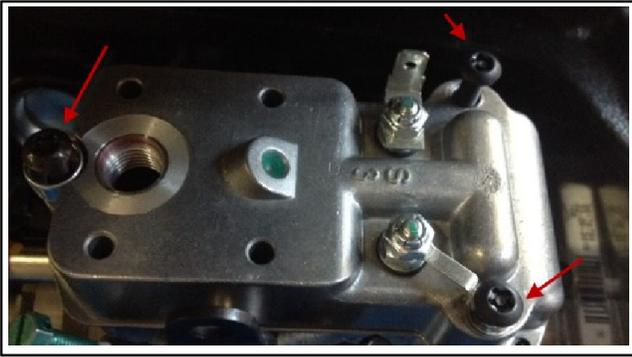

Figure 3 Actuator Screws (qty. 3)
- 2.5 Remove the governor control cover assembly (see the following NOTE). Save the screws for later use. See Figure 3.